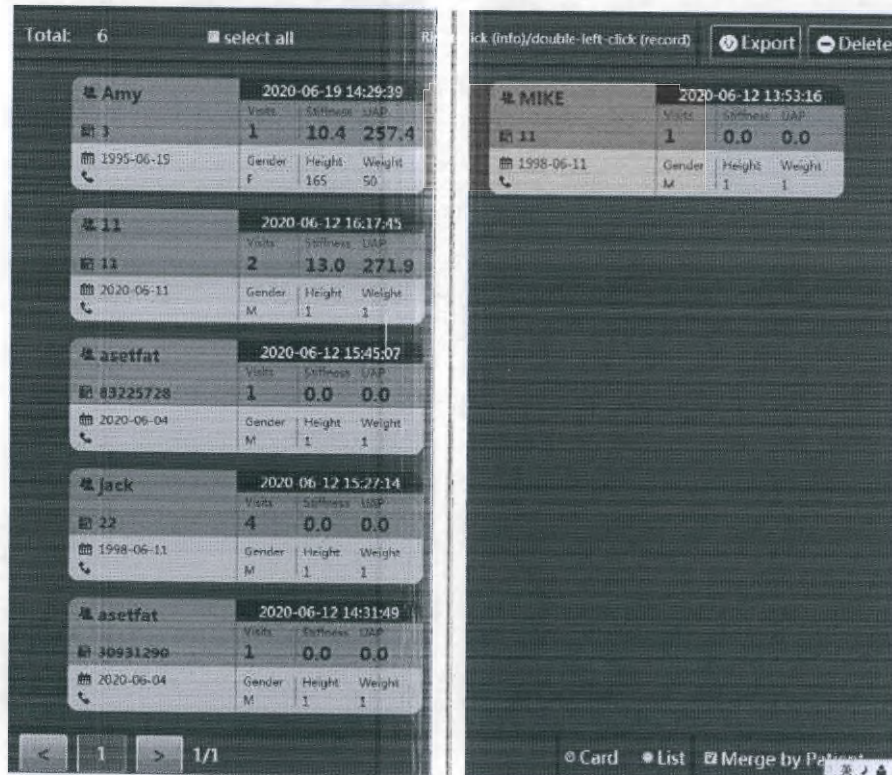
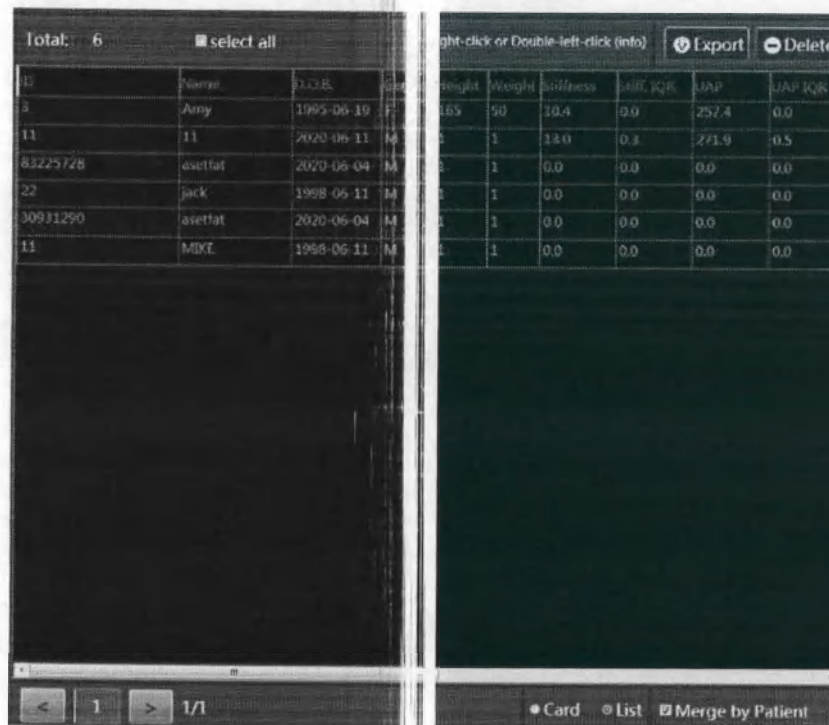

Fig. 6-10 Main array interface
Fig. 6-11 Information list interface
2. Information about medical records can be presented in two forms: an array of cards and an information list. Users can press the "Map" button to select the map array form, or "List" to select the information list form according to their preferences. The map array interface is shown in Fig. 6-10, the information list is shown in fig. 6-11.